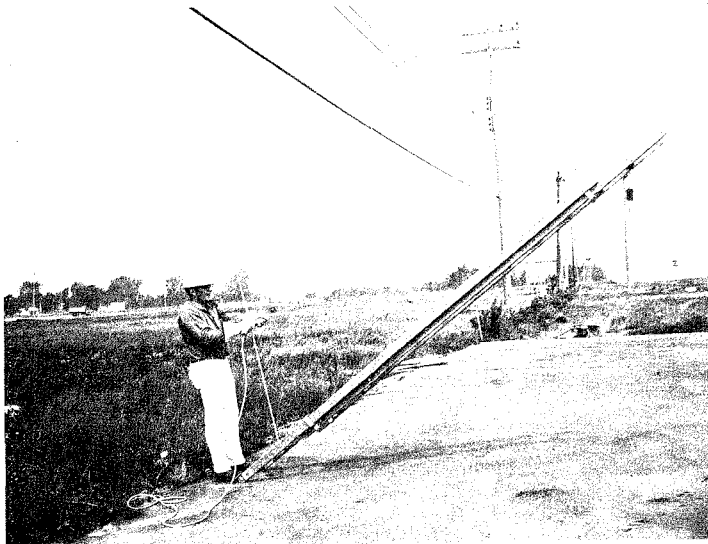

Fig. 23 — Ladder Partially Raised
- 7.07** Pull the handline hand over hand. As the top end of the ladder is raised off the ground, keep feet in position to block any movement of the base of the ladder to the rear (Fig. 23).